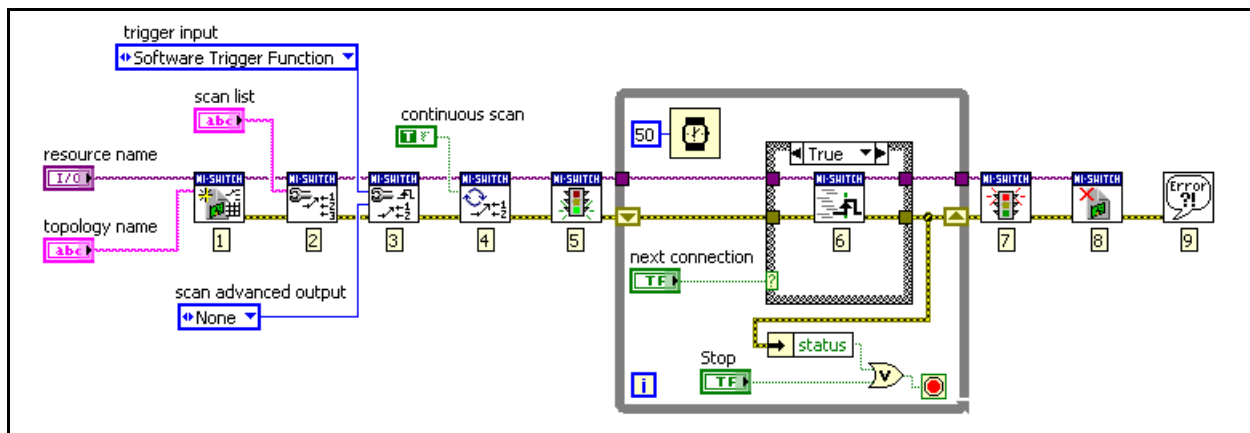

Figure 6-1. Software Scanning Block Diagram
Build the block diagram as shown in Figure 6-1 using the following items:
- Connect the error terminals of all of the VIs together and connect the instrument handles on each VI to each other as shown in Figure 6-1.